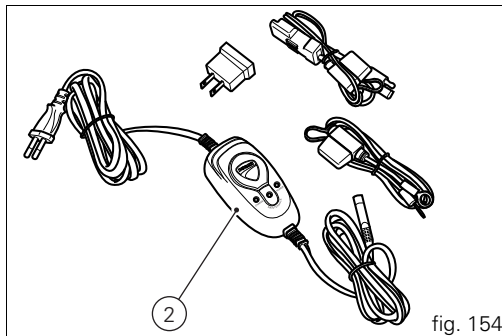

fig. 154
Your motorcycle is equipped with a connector (1, fig. 154) to which you can connect a special battery charger (2) (Battery maintainer kit part no. 69924601A - various countries) (Battery maintainer kit part no. 69924601AX - for Japan, China and Australia only) available from our sales network.